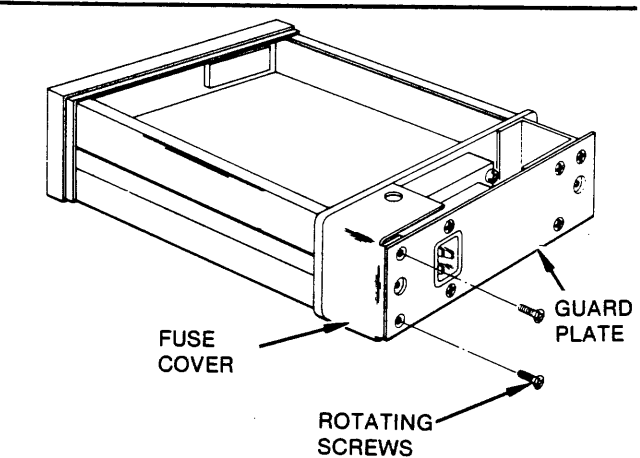
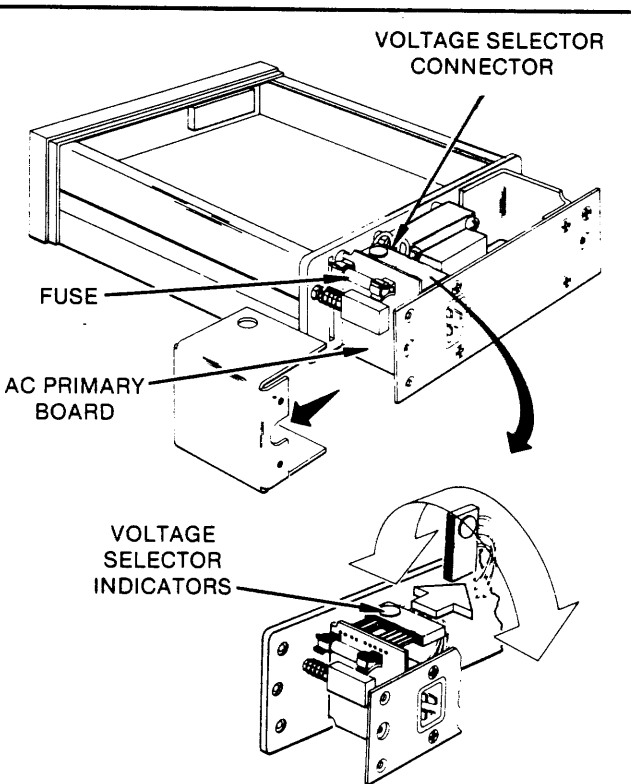
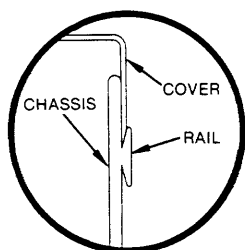

Figure 2-3. Guard Plate Removal
Figure 2-4. Fuse and Voltage Selection
Figure 2-5. Top and Bottom Cover Installation
If the line voltage is not correct, perform the following steps and refer to figure 2-3 for step 1, and figure 2-4 for steps 2 thru 4 to change the line voltage and fuse.
Refer to figure 2-3 for step 1 and figure 2-5 for steps 2 thru 4.
- 2. Turn the instrument upside down, position the bottom cover over the guard shield, and then slide the bottom cover forward approximately two inches while engaging the cover and slides (see figure 2-5, detail A and detail B). Don't slide the cover on yet.